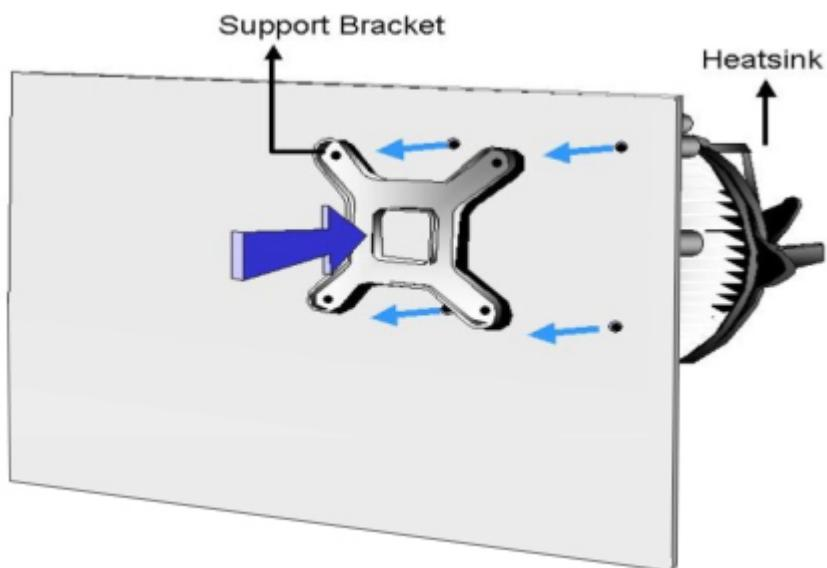

Figure 4-6: Securing the Heat sink to the IMBA-G410
Step 4: **Secure the cooling kit.** From the solder side of the PCB, align the support bracket to the screw threads on heat sink that were inserted through the PCB holes. (See **Figure 4-6**)